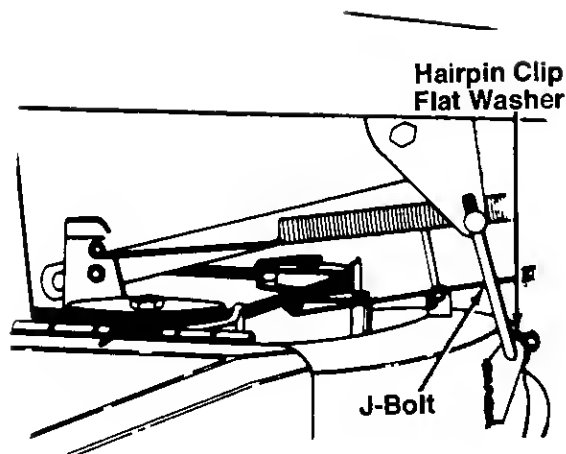

FIGURE 11.
3. If the front is not between 1/4" and 3/8" lower than the rear, remove the hairpin clips and flat washers which secure the J-bolts to the front of the deck, both right and left sides. See figure 11. Thread the J-bolts into or out of the ferrules as necessary.